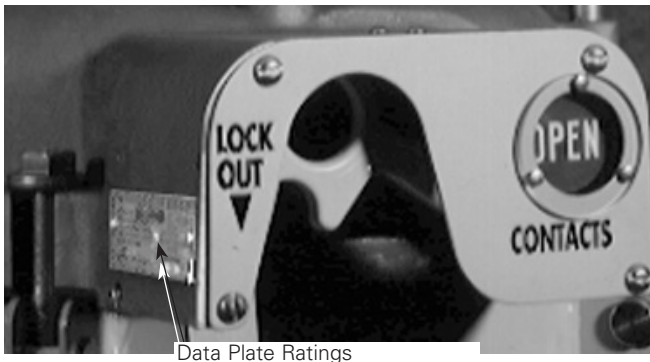

Figure 3. NOVA-TS triple-single recloser data plates are located on the sleet hood.
1. Check the data plate ratings. Make sure the ratings on each recloser data plate (see Figure 3) are correct for the planned installation.